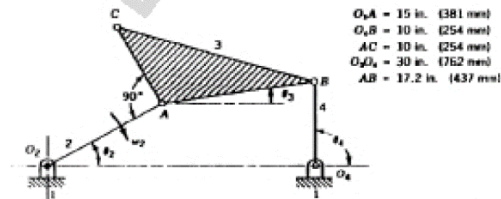

FIGURE 2.56
2.31. For the linkage of Fig. 2.56, construct a table showing the angles  $\theta_2$  and  $\theta_4$  as a function of  $\theta_3$  for  $10^\circ$  increments of  $\theta_3$  from  $0^\circ$  to  $360^\circ$ . Clearly indicate those values of  $\theta_3$  for which the mechanism will not assemble.